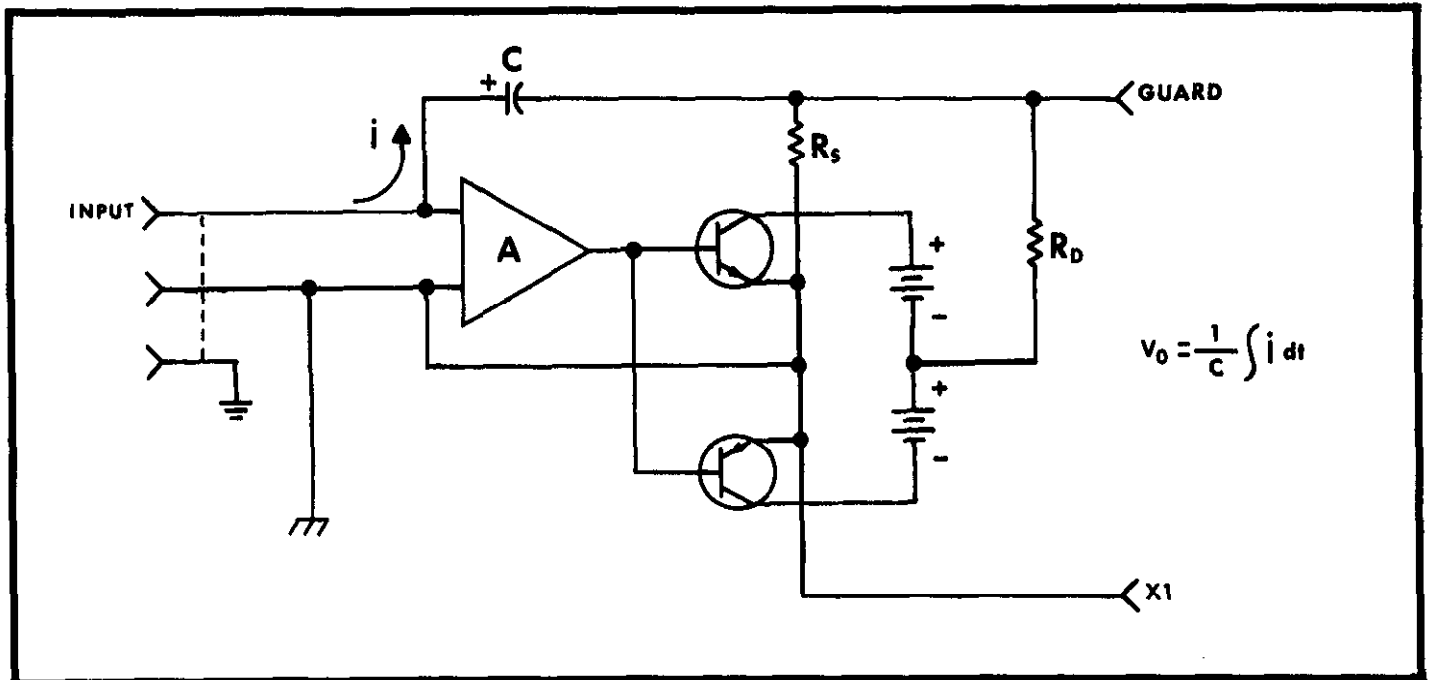

FIGURE 14. Coulombmeter Fast Mode.
a. With the FEEDBACK Switch in the FAST position, an accurately known RANGE Switch capacitor (COULOMBS Range only) is connected across the amplifier feedback loop as shown in Figure 14. The COULOMBS Range capacitors are C1203 through C1212. The Electrometer digital readout display indicates the stored charge proportional to the voltage across the capacitor. The actual charge in coulombs is determined by multiplying the digital readout times the COULOMBS Range Setting.